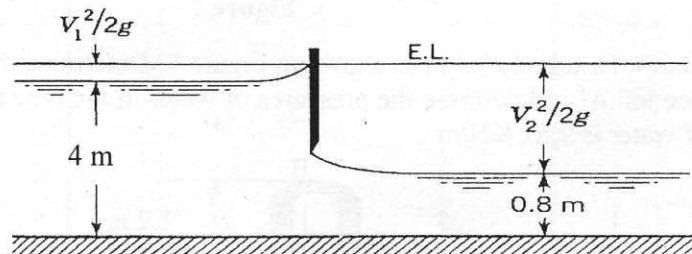

Figure 11
7.(a) Assuming no head loss, determine the flow rate of the sluice gate as shown in Figure 11. (6)